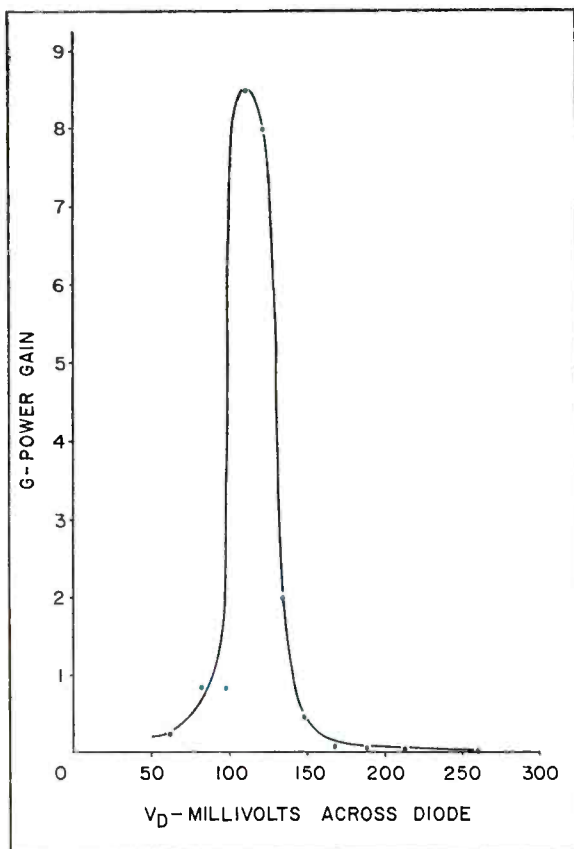

Fig. 11—Power gains in a tunnel diode amplifier.
From the last column of Table II, we can see that over a certain range of input voltages larger power gains are experienced in the circuit. These power gains (G) can be more clearly visualized when plotted against some other variable. This has been done in Fig. 11 by plotting the power gain against the bias voltage (V_D) across the diode. Like the curve in Fig. 6, this curve (Fig. 11) should not be considered a characteristic curve of the tunnel diode. It is instead a characteristic curve of an amplifier containing a tunnel diode of known characteristics.